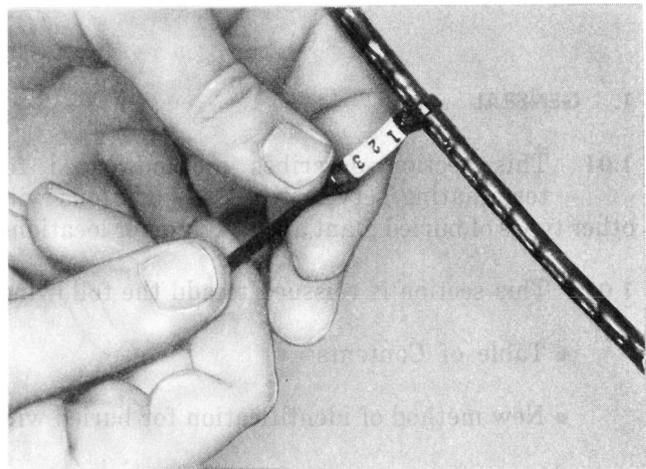

Fig. 2—♦Placing Tie and Marker♦
- (2) Wrap the tie around the service wire and slip the tail through the eye of the grommet end and pull taut.
- (3) Slide the desired preprinted tubular markers on the tail of the tie, then slide the locking head on the tie and push snug against the markers (Fig. 2).♦